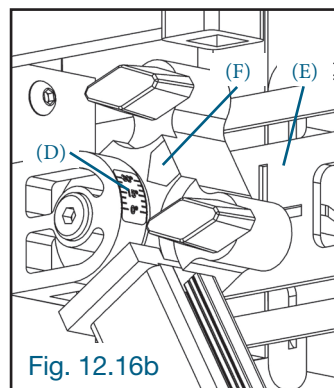

Fig. 12.16b
Use the angle indicator (D) on the back of the hip lateral (E) by aligning the red arrow (F) with the desired degree on the angle indicator (D). (Fig. 12.16b)